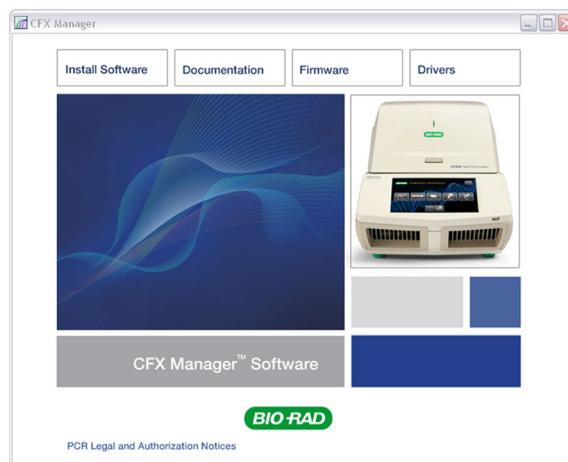

Figure 6. Software installation screen.
4. The software launch page should appear automatically. Double-click **Install Software** on the software launch page (Figure 6).